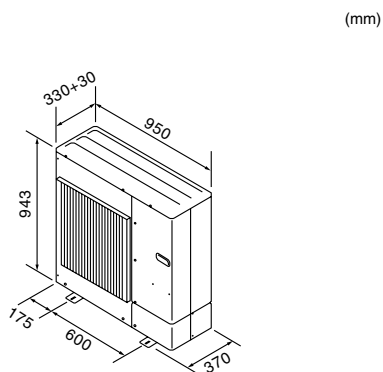

Fig. 2-1
2.2. Outline dimensions (Outdoor unit) (Fig. 2-1)